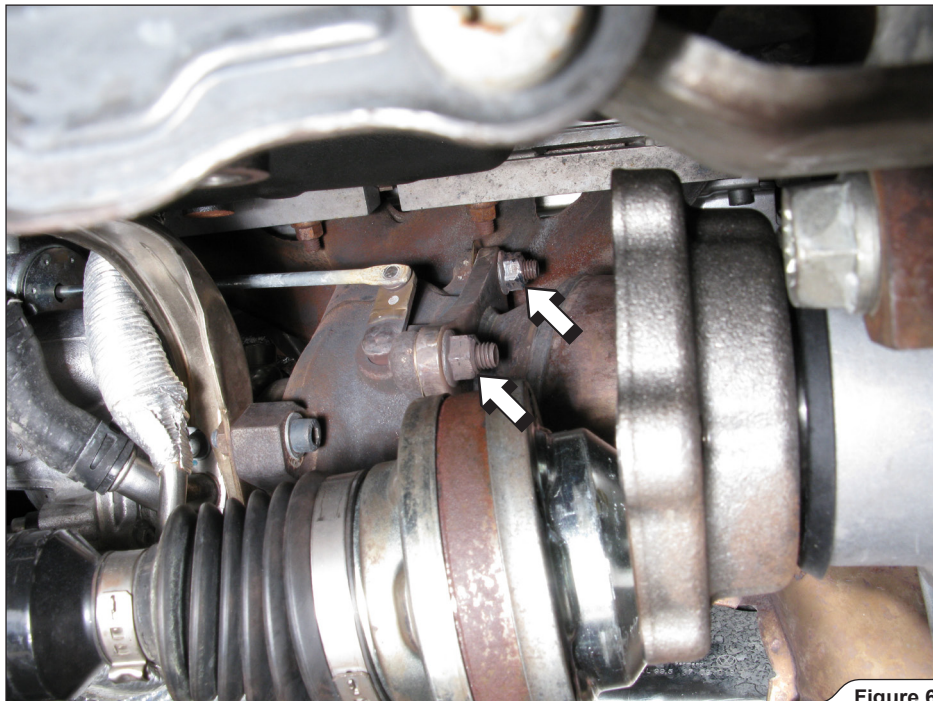

Figure 6
5. Unscrew the stock down pipe's flange nuts (Figure 6, 7).